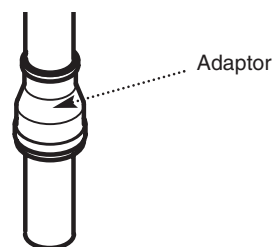

Fig. 7c
9. The 60Ø exhaust can now be fitted. Slide the adaptor over the plain end of the 60Ø exhaust (Fig. 7c) and engage the exhaust in the terminal. Slide the adaptor down over the spigot. Mark and drill the adaptor, using a 2mm bit, as shown in Fig. 7b. Secure the adaptor to the spigot using one of the screws supplied.